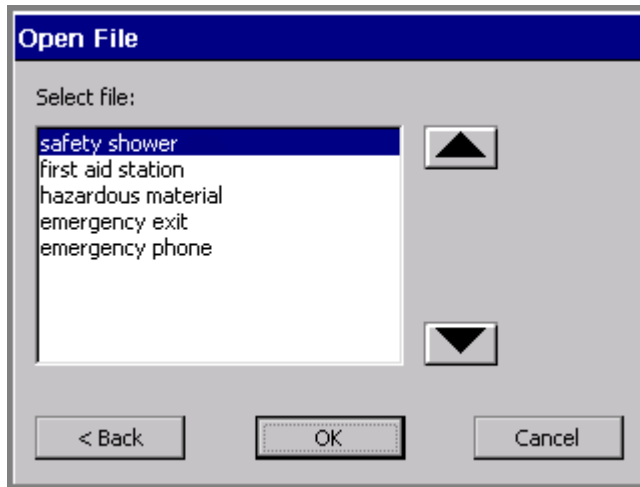

Figure 9-6. The Open File screen.
4. Choose the File Group in which the label file is stored, then choose **OK**. You'll see the **Open File** screen, shown in Figure 9-6 on page 9-9.